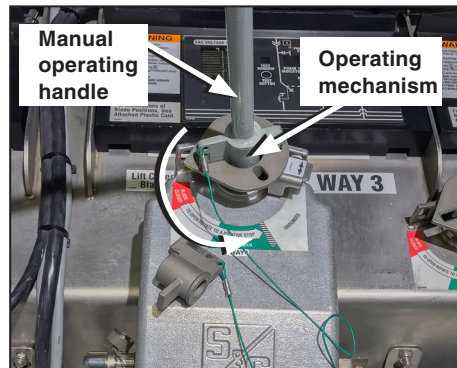

Figure 7. Insert the manual operating handle.
STEP 5. Insert the manual operating handle into the notch of the motor operator operating mechanism. See Figure 7.
STEP 6. Rotate the manual operating handle in the appropriate direction to open, close, or ground the load-interrupter switch or three-pole fault interrupter. Operation to the **Open** position is shown in Figure 7.